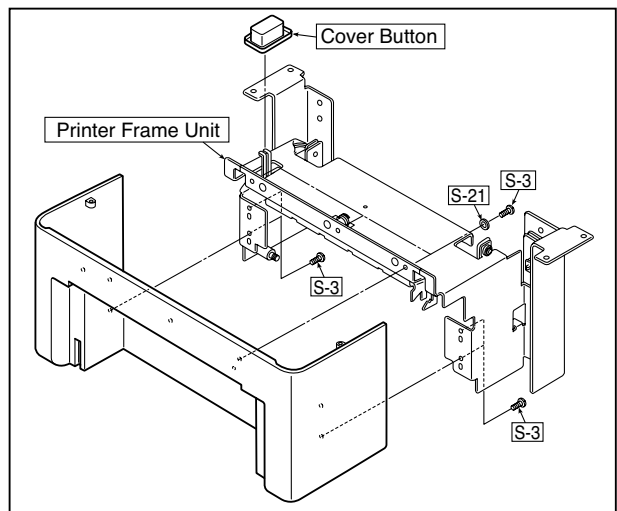

Fig.6
### 5) Remove the Printer Frame UNIT. (See Figs.6)
- 1.Remove the Cover Button shown in Figure 6.